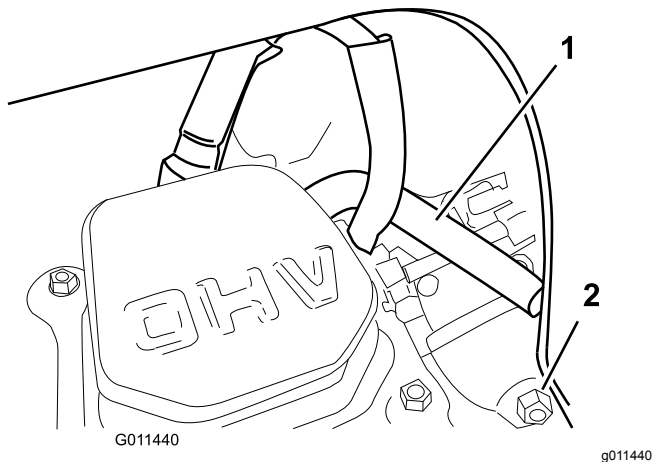

**Figure 29**
11. Set the gap on the plug to 0.030 inch (0.76 mm) as shown in Figure 29.